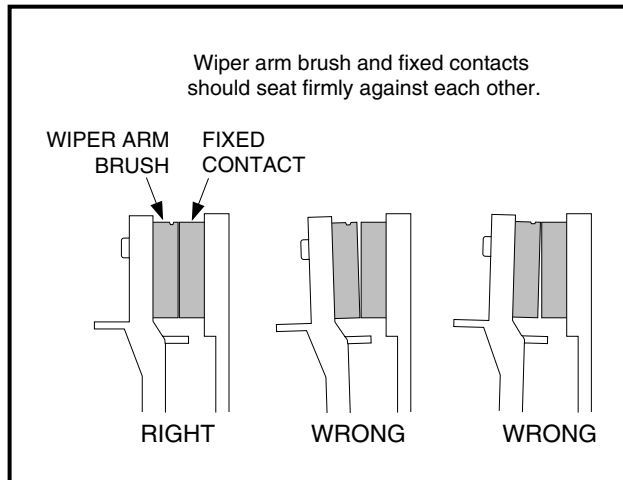
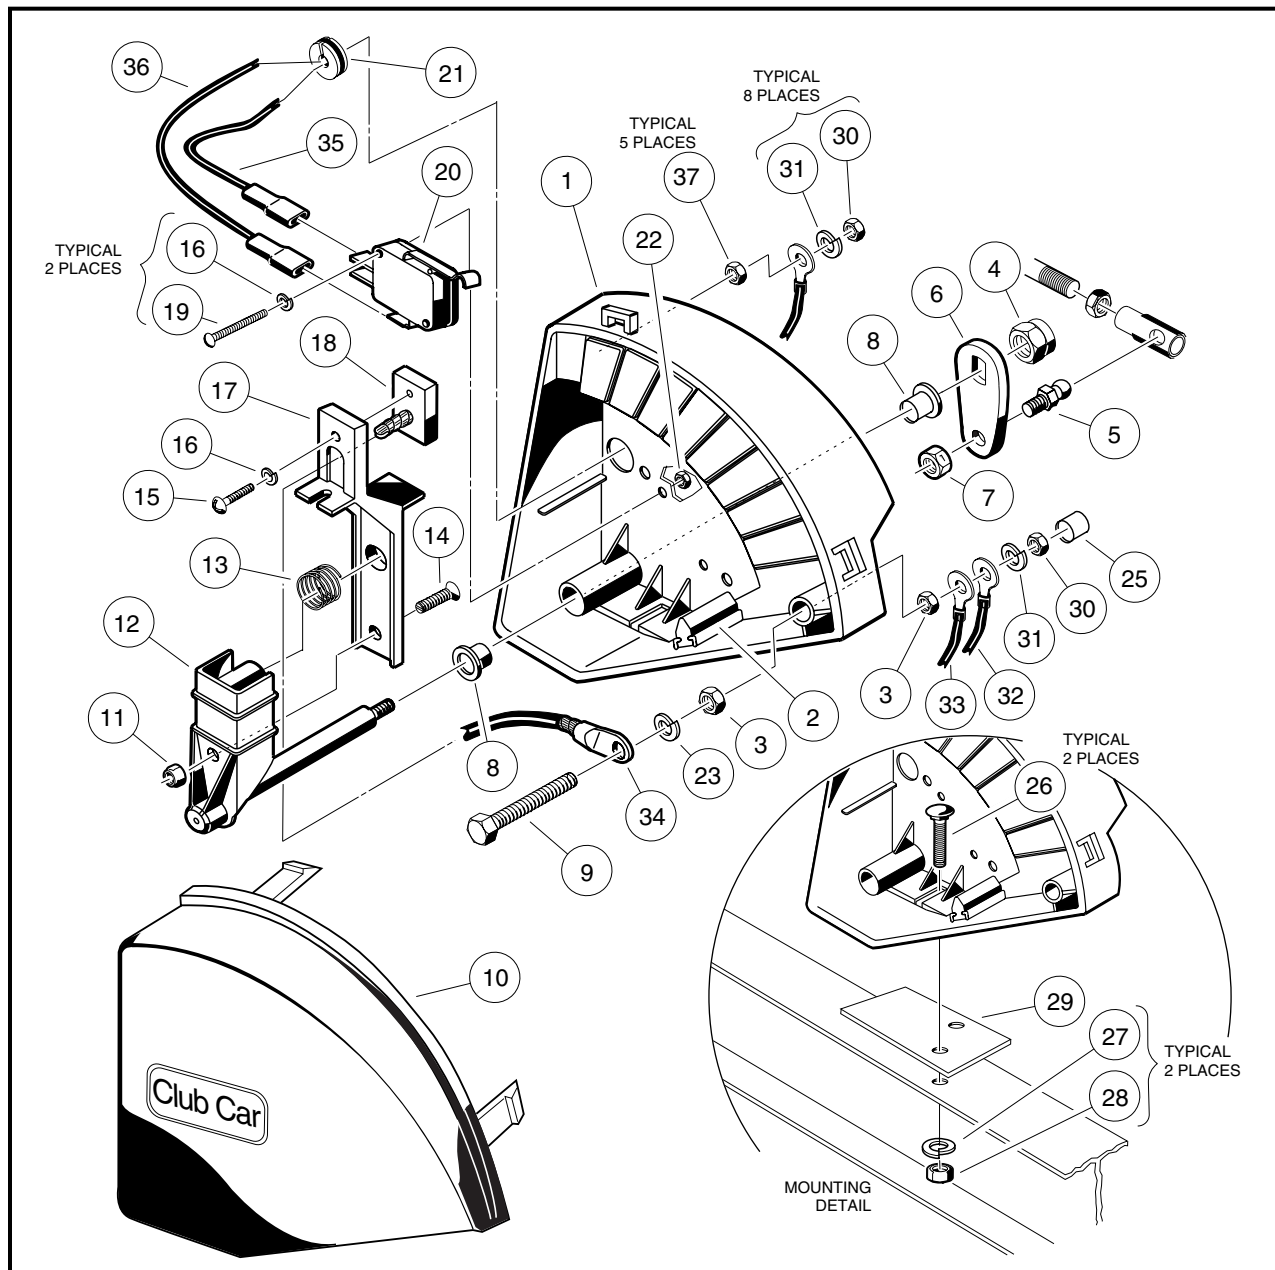

Figure 12-7 Wiper Arm Brush and Fixed Contacts
Figure 12-9 V-Glide Wiper Switch
The contact surfaces on the wiper switch arm brush and the fixed contacts must be parallel to ensure efficient operation of the V-Glide wiper switch (**Figure 12-7, Page 12-9**). Adjust arm contact as follows:
2. Remove the cover (10) from the V-Glide wiper switch housing (1) (**Figure 12-9, Page 12-10**).
4. To adjust surface contact, turn the adjustment screw (14) (Figure 12-9, Page 12-10) until the surfaces of the wiper switch arm brush and fixed contacts are parallel (Figure 12-7, Page 12-9). See following NOTE.
2. Disconnect the accelerator rod from the V-Glide wiper switch ball stud (5) and place the wiper switch arm on the topmost fixed contact (**Figure 12-9, Page 12-10**).
3. Remove the cap protector (25), nut (30), and lock washer (31) from the bolt (9) and remove the two 6-gauge white wires (32 and 33).
4. Remove the second nut (3) from the bolt (9) and then remove the bolt from the V-Glide wiper switch housing (1).
5. Remove the third nut (3) and lock washer (23) and wire (34) from the bolt (9) (**Figure 12-9, Page 12-10**).
6. Replace the wiper switch arm brush (18) as follows:
2. Remove nuts (30) and lock washers (31), then remove resistor wires from wiper switch (**Figure 12-9, Page 12-10**).
3. Remove the cover (10) from the wiper switch (**Figure 12-9, Page 12-10**).
4. Disconnect the black wire (36) from the charger receptacle.
5. Disconnect the green wire (35) from the small post on the solenoid.
6. Remove nuts (28) and lock washers (27) securing V-Glide wiper switch to vehicle frame, then remove the wiper switch from vehicle. Secure shim (29) to vehicle frame.
1. Remove the nut (3) and slide the bolt (9) out of the wiper switch housing (**Figure 12-9, Page 12-10**).
2. Remove the nut (4) and bell crank (6).
3. Slide wiper switch arm assembly out of the V-Glide wiper switch housing (1).
4. Disassemble the wiper switch arm assembly by loosening the adjustment screw (14) and nylon lock nut (11) and removing the spring (13).
5. To remove the bearings (8) lightly tap them from the back with a punch.
1. Install bearings (8) into the wiper switch housing by lightly tapping them with a plastic hammer. Make sure that the collars of the bearings are flush against the wiper switch housing (**Figure 12-9, Page 12-10**).
2. With the spring (13) in place, hold the V-Glide wiper switch arm shaft (17) and carrier (12) together. **See following CAUTION.**
3. Install the adjustment screw (14) and a new nylon lock nut (11) (**Figure 12-9, Page 12-10**). **See following NOTE.**
5. While holding the bell crank so the arm does not exert a load on the wiper switch housing, install the nut (4) and tighten to 9 ft-lb (12 N·m) (**Figure 12-9, Page 12-10**).
6. If the ball stud (5) was removed, insert it through the bell crank with the ball facing away from the wiper switch housing and install the lock nut (7). While holding the ball stud with a wrench, tighten the lock nut to 5 ft-lb (7 N·m) (**Figure 12-9, Page 12-10**).
7. Install bolt (9) with wire terminal, lock washer, and nut through switch housing.
8. Install the nut (3) onto the bolt and tighten to 40 in-lb (4.5 N·m). **See following WARNING.**
1. Position shim plate (29) on I-beam and then place V-Glide wiper switch assembly in position on shim plate. Install mounting bolts (26), lock washers (27), and nuts (28) (**Figure 12-9, Page 12-10**). Make sure square shoulders on the bolts fit squarely into the wiper switch housing. Tighten nuts to 36 in-lb (4.0 N·m). **See following WARNING.**
5. Connect the 6-gauge white wire from the resistor coil and the 6-gauge white wire from the solenoid to the bolt (9) in the wiper switch housing (**Figure 12-10, Page 12-13**). Install the lock washer (31) and nut (30) onto the bolt and tighten to 40 in-lb (4.5 N·m). Install cap protector (25) (**Figure 12-9, Page 12-10**).